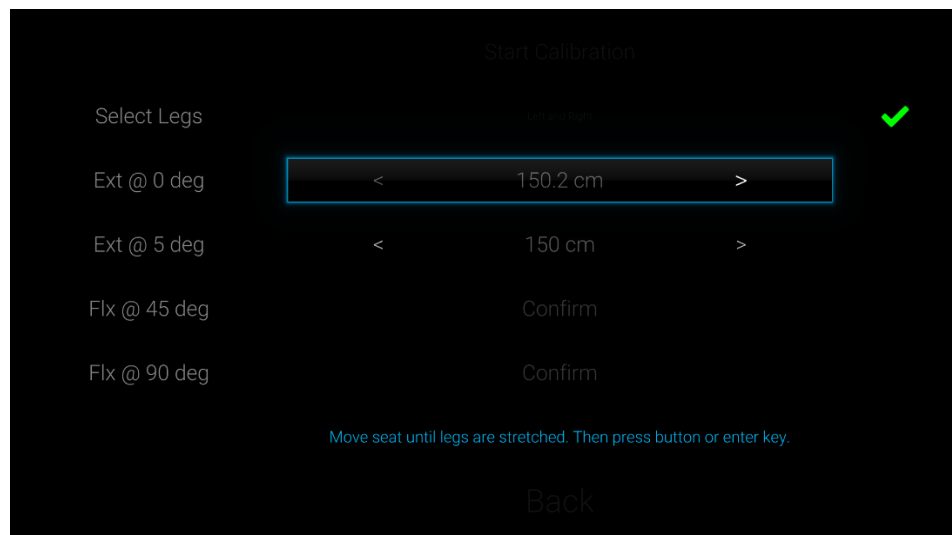

**Figure 18:** Expert Calibration four-point calibration screen
- Then the user is asked to move the seat until its legs are fully extended, i.e. at  $0^\circ$  degrees measured in anatomical angles (Fig. 18). Please make sure that in this position the user’s legs are not over-extended and that he or she is sitting properly in the seat with the lower back in firm contact to the back rest. Once OK, hit the ENTER key or press the joystick button – a green check mark will appear.